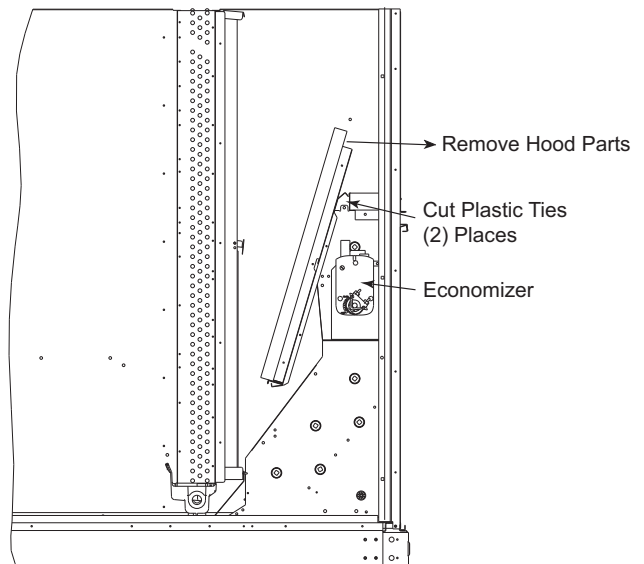

Fig. 11 — Economizer Hood Package Location
Locate the carton containing the outside air hood parts; see Fig. 11 and 12. Do not remove carton until unit has been rigged and located in final position.
3. Locate and cut the (2) plastic tie-wraps, being careful to not damage any wiring. (See Fig. 11.)